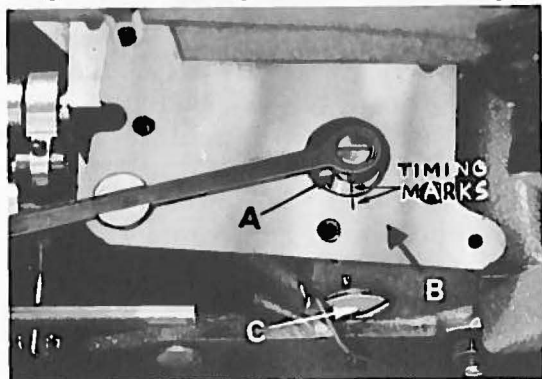

Fig. 11
With the pinker and its base removed and the needle bar at the bottom of its stroke, the timing mark on the face of the vertical drive crank (A, Fig. 11) must line up with the timing mark on the oil reservoir top cover (B). This can be accomplished by removing the access plug screw (C), inserting screwdriver and loosening screws in driven gear on the vertical shaft, rotate vertical drive crank by hand to align the timing marks and retighten screws in driven gear securely.